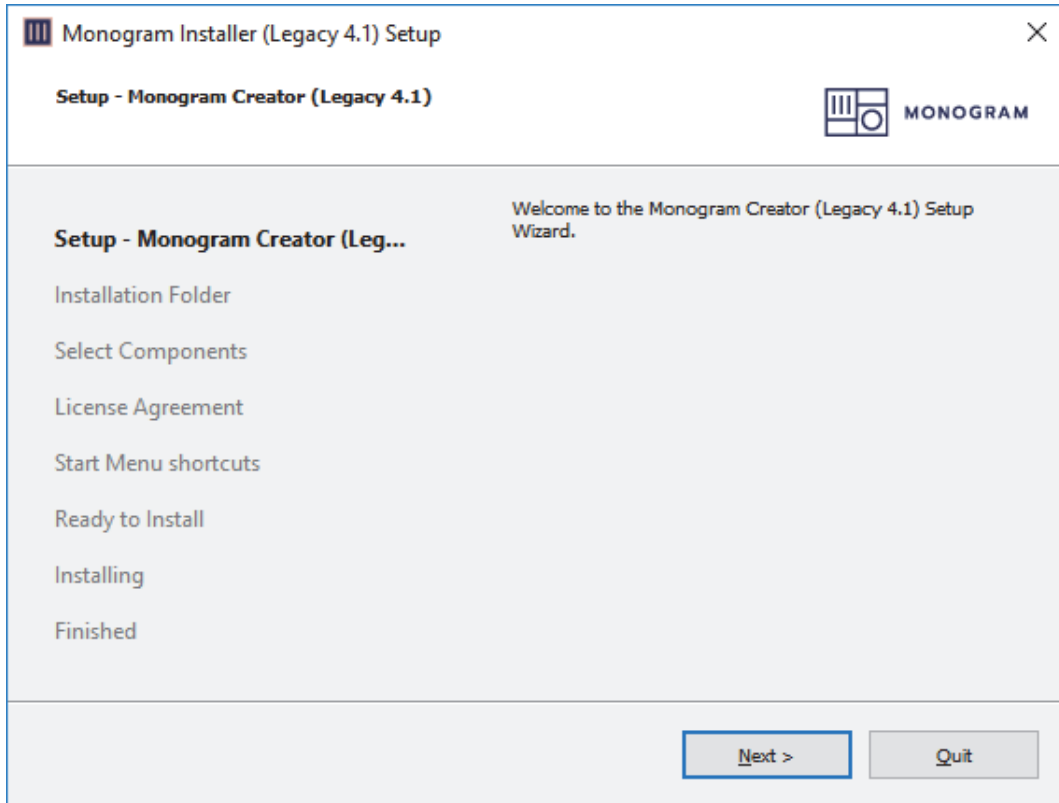

Figure 10 - Monogram Installer
5. The **Monogram Creator Setup Wizard** appears (Figure 10).